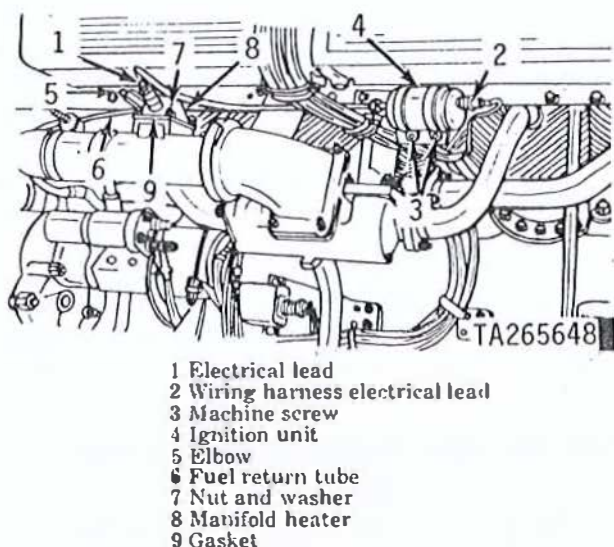

Figure 2-119. Removing or installing manifold heater or ignition unit.
(1) Ignition Unit.
(a) Disconnect manifold heater electrical lead (1, fig 2-119) and wiring harness electrical lead (2) from ignition unit (4).
(2) Manifold Heater.
(a) Disconnect electrical lead (1, fig. 2-119) at spark plug. Disconnect manifold air heater fuel inlet hose from elbow (5) and disconnect manifold air heater fuel return tube (6).
(1) Manifold Heater.
(a) Install manifold heater (8, fig. 2-119) on heater tube using new gasket (9), and secure to heater tube with four self-locking nuts and flat washers (7).